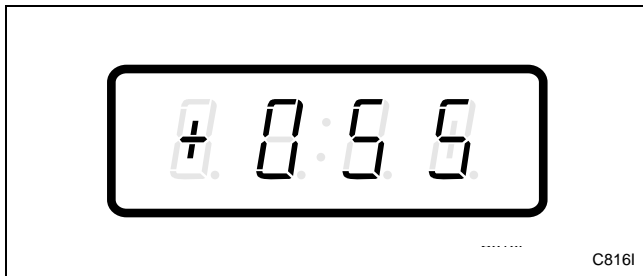

Figure 67
3. Press the DELICATES (+) or the COLD (-) keypad to scroll through the programmable options until “+055” appears in the VFD. Refer to *Figure 67*.